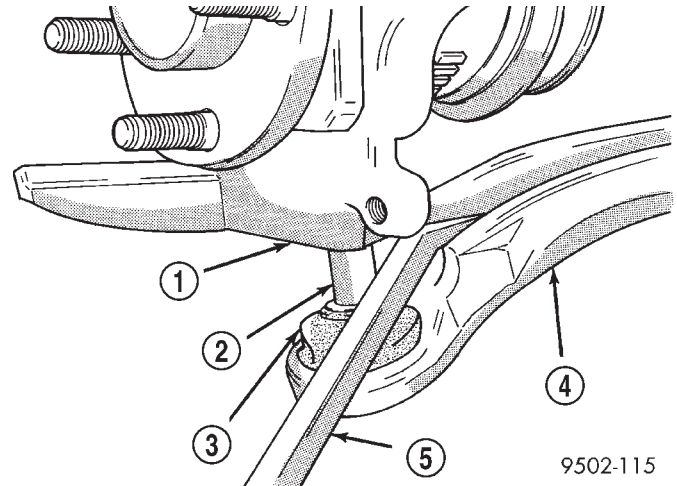

Fig. 11 Separating Ball Joint Stud From Steering Knuckle
(13) Using a pry bar, separate steering knuckle from ball joint stud (Fig. 11). **Note: Use caution when separating ball joint stud from steering knuckle, so ball joint seal does not get cut.**